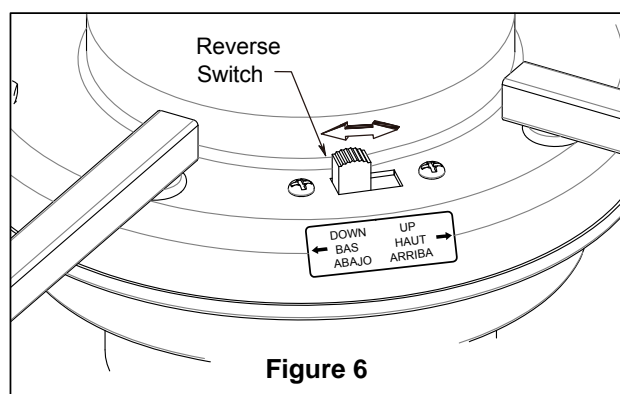

Figure 6
- ☐ 6. Reinstall the hanger ball on the downrod as follows. Route the black, white, blue wires through the hanger ball. Position the pin through the two holes in the downrod and align the hanger ball so the pin is captured in the groove in the top of the hanger ball. Pull the hanger ball up tight against the pin. Securely tighten the set screw in the hanger ball. A loose set screw could create fan wobble. (Figure 6)
- ### 6. If airflow is desired in the opposite direction, turn the fan off and wait for the blades to stop turning. Slide the reverse switch on top of motor assembly to the opposite position and turn fan on again. (Figure 6)